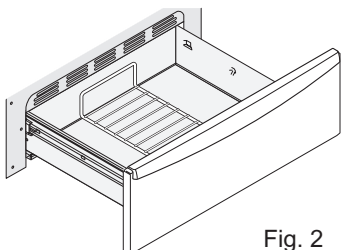

Fig. 2
- In the **downward position** to allow you to place light weight food items and empty dishware (for example, rolls or pastries and dinner plates - See Fig. 2).